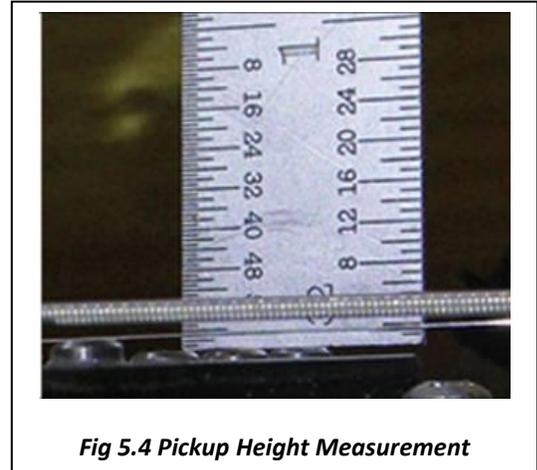

Fig 5.4 Pickup Height Measurement
5.4 Pickup Height (Figure 5.4) - 4 -
5.4 Pickup Height (Figure 5.4)